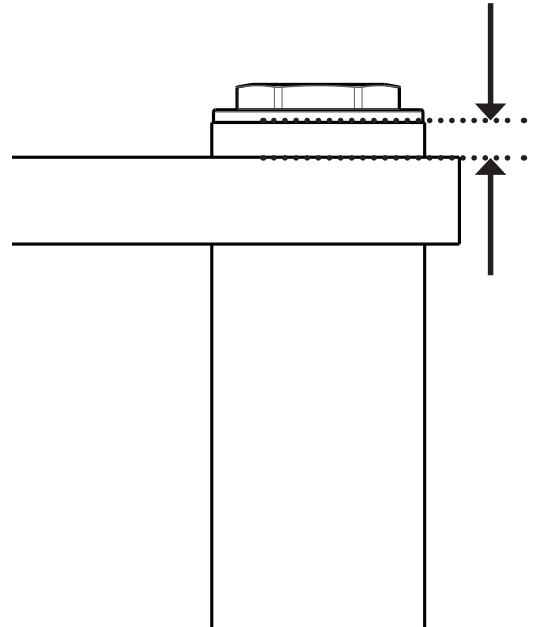

Fig. 1: Note the fork position relative to the triple clamp.
2. Prior to removal of the fork legs, note the fork leg height relative to the triple clamps (Fig. 1). Note the left (clutch side) and right (throttle side) leg separately so the cartridges are installed into the correct side.